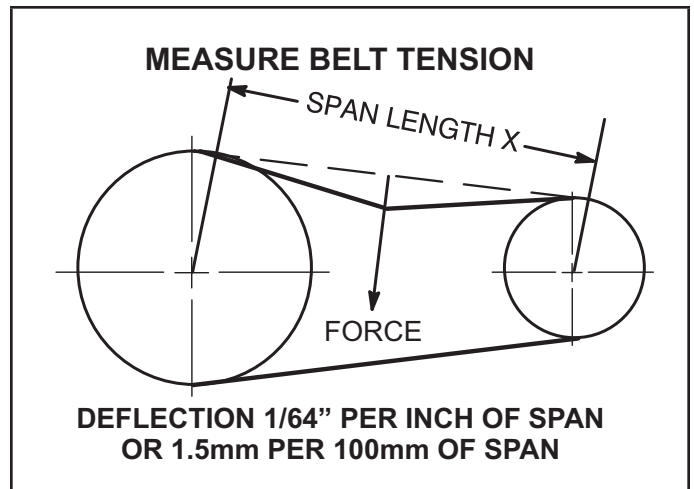

FIGURE 13
- 1 - Measure span length X. See FIGURE 13.
- 2 - Apply perpendicular force to center of span (X) with enough pressure to deflect belt $1/64$ " for every inch of span length or 1.5mm per 100mm of span length.